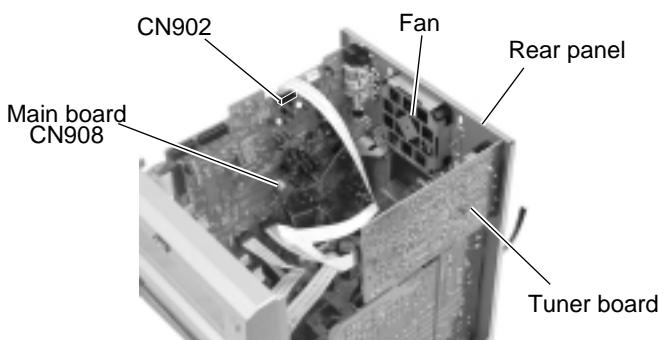

Fig.9
■ Removing the fan (See Fig.9 and 12)